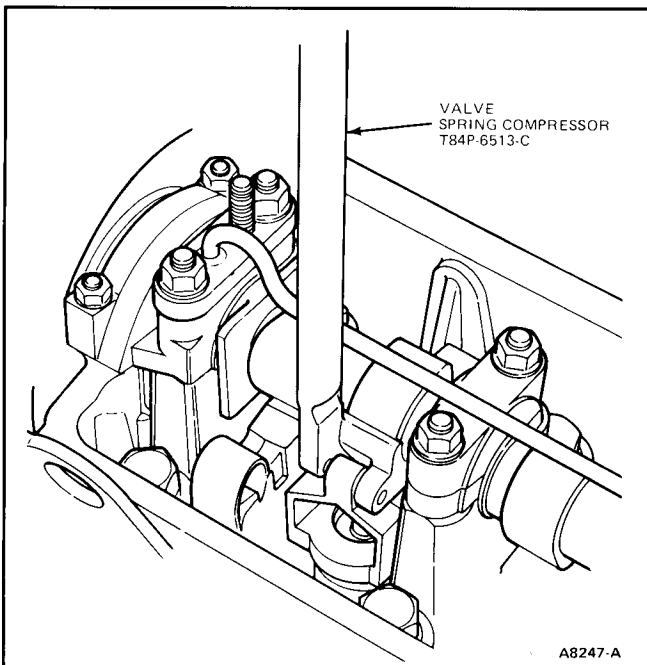

FIG. 15 Valve Spring Compressor Tool
- Compress spring assembly using Valve Spring Compressor Tool, T84P-6513-C or equivalent, and remove rocker arm (Fig. 15).
remove the retainer locks, spring retainer, and valve spring (Fig. 15).